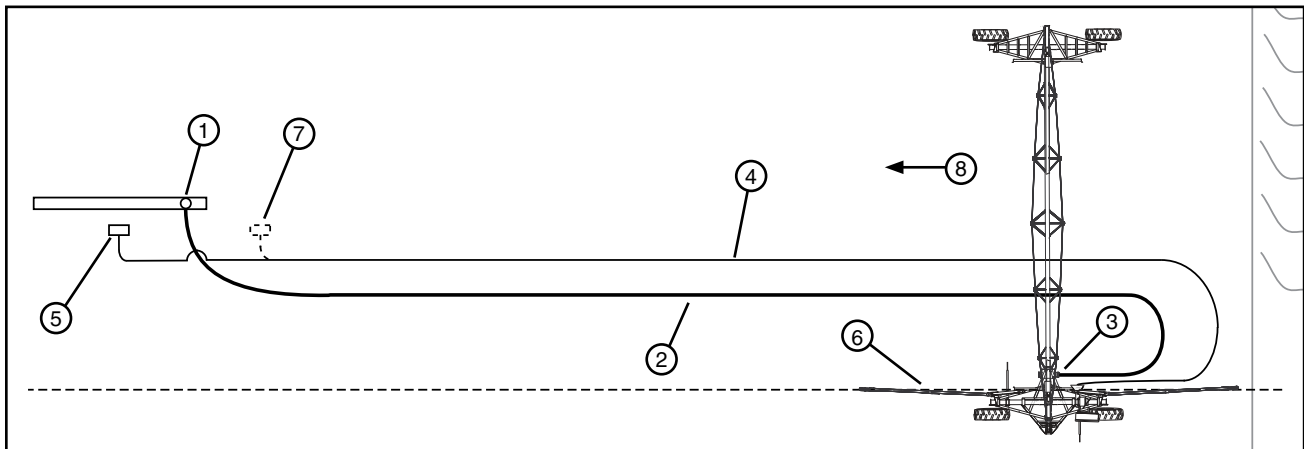

Figure 52-1 1. Shut Off Valve 3. Tee Inlet 5. Power Pedestal 7. Alternate Power Pedestal and Electric Cord Position
16. Position and connect a soft hose with pulling chains to the hard hose, then to the cart. DO NOT connect the hard hose directly to the tee inlet. See figure 52-1.
17. Connect hose to the shut off valve. See figure 52-1.